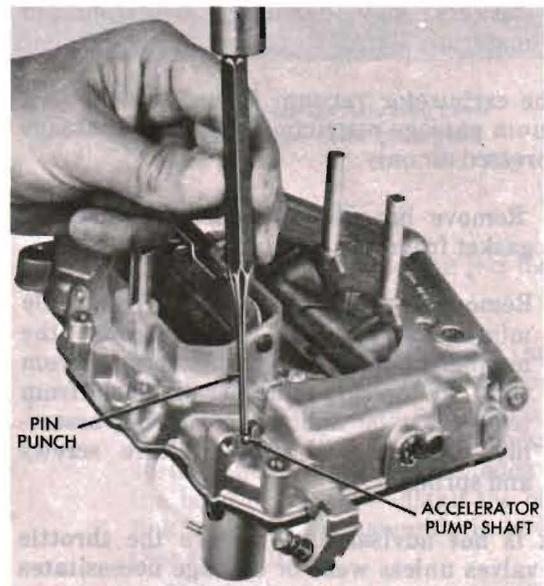

Figure 10. Removing Accelerator Pump Plunger
- (1) Remove the float lever pins and lift out float assemblies. It is suggested that the float on the pump side be marked so that floats can be reinstalled in their respective positions.
- (2) Remove the two needle valves from their respective seats, after marking the one on pump side for identification. Using a wide blade screwdriver, remove needle valve seats. Be sure each needle valve is returned to its original seat during reassembly.
- (3) Remove the secondary jets (5/16 open end wrench).
- (4) Remove acceleration pump passage tube (plastic) and bowl cover gasket.
- (5) Remove accelerator pump rod "S" link. To remove pump plunger assembly, use a small rod placed on upper end of plunger shaft and tap lightly with a small hammer. (See figure 10.)